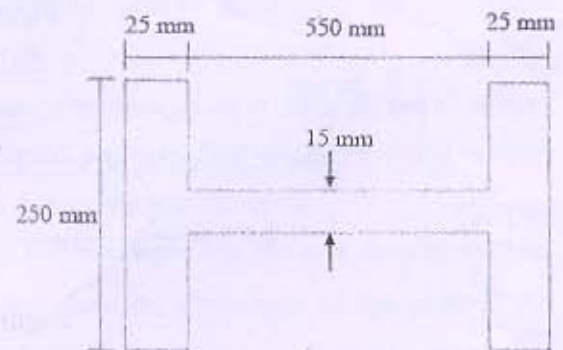

Figure 6
- (b) A steel beam section as shown in **Figure 6** is subjected to a shear force of 600 kN . Determine the shear stress distribution for the beam section.